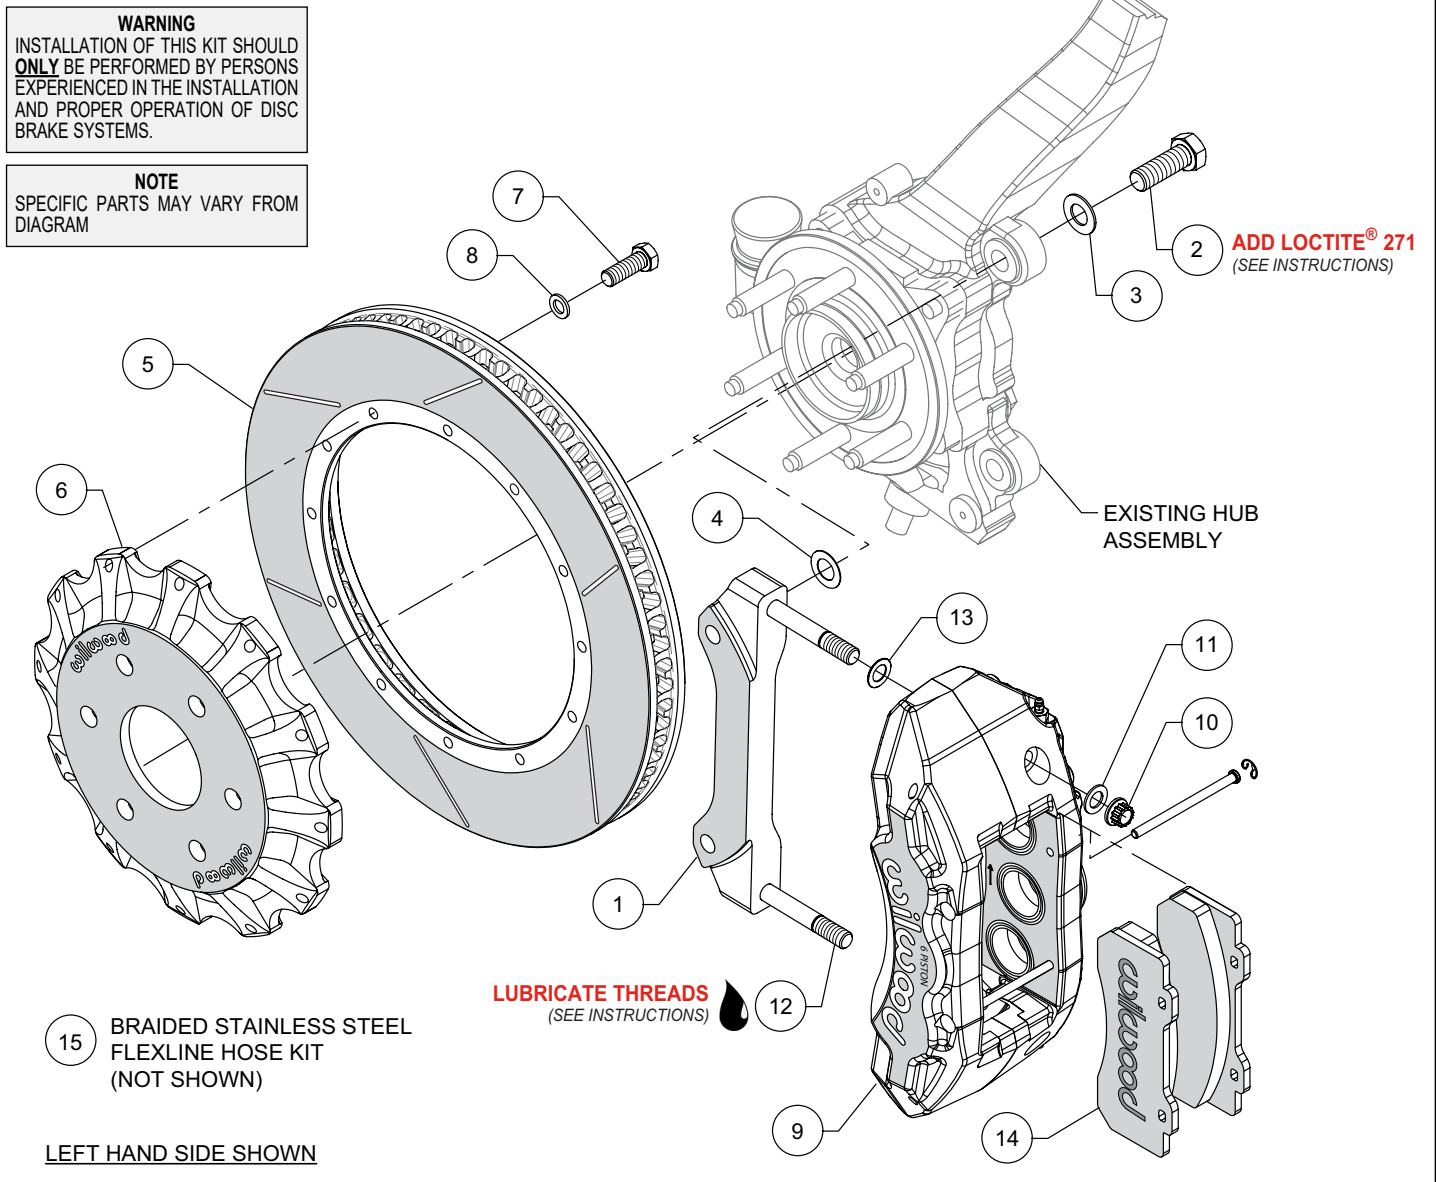
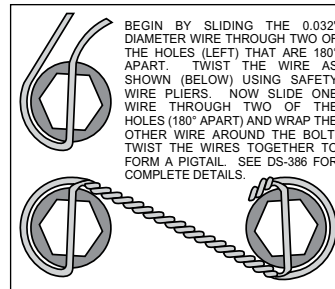

Figure 1. Typical Installation Configuration
Figure 3. Safety Wire Diagram
**NOTE:** Numbers in parenthesis refer to the parts list and Figure 1 on the preceding pages.
- The caliper mount bracket (1) should initially be installed with clean, dry threads on the mounting bolts. Orient the bracket as shown in Figure 1 and Photo 1, and install using bolts (2) and washers (3). Initially place one .024 thick shim (4) on each bolt between the bracket and upright, Figure 1. Temporarily tighten the mounting bolts. **NOTE:** The bracket must fit squarely against the mount bosses on the upright. Inspect for interference from casting irregularities, machining ridges, burrs, etc. Later, after the caliper alignment has been checked, the mount bolts will be secured using red *Loctite*® 271.
- Orient the rotor (5) and the hat (6) as shown in Figure 1 and Photo 2. Attach rotor to hat using bolts (7) and washers (8). Using an alternating sequence, torque to 25 ft-lbs. For an added measure of security, the bolts may be safety wired using standard 0.032 inch diameter stainless steel safety wire as shown in Figure 3. Refer to Wilwood's data sheet DS-386 (available at [www.wilwood.com/Pdf/DataSheets/ds386.pdf](http://www.wilwood.com/Pdf/DataSheets/ds386.pdf)) for complete safety wire installation instructions.
- NOTE:** This kit contains distinct right and left hand calipers that must be mounted in a specific direction, as described below. Lubricate the caliper mounting studs (12) with lightweight oil. Initially place one .032" thick shim (13) on each stud as shown in Figure 1 and Photo 3. Mount the caliper (9) onto the bracket (1) using lock nuts (10) and washers (11), Figure 1. Ensure that the caliper is mounted so that the largest pistons are at the rotor exit end of the caliper, in relation to the direction of rotor rotation. Temporarily tighten the lock nuts and view the rotor through the top opening of the caliper. The rotor should be centered in the caliper, Photo 4. If not, adjust by adding or subtracting shims (4) between the bracket and the upright. Always use the same amount of shims on each of the two mounting bolts. Once the caliper alignment is correct, remove the bracket mounting bolts (2) one at a time, apply red *Loctite*® 271 to the threads, and torque to 120 ft-lb.